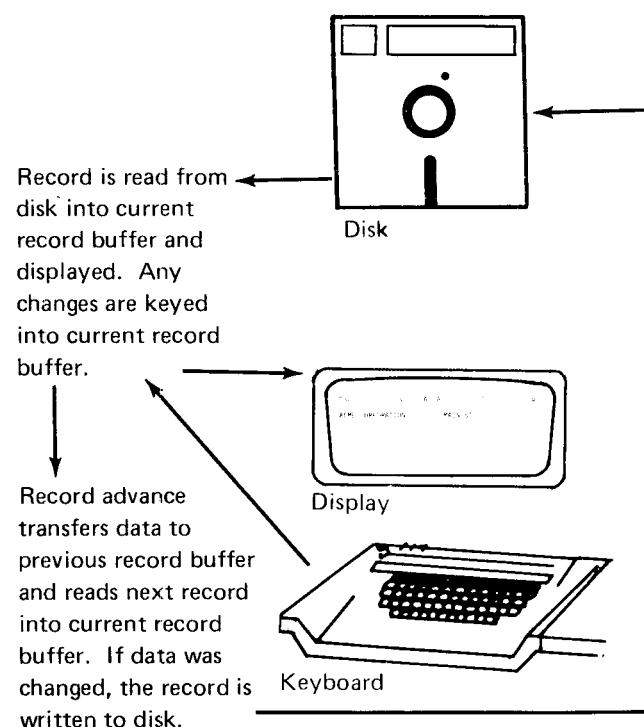

Figure 10. Data Flow for Update Mode
Data flow is summarized in Figure 10. Update mode can be selected from the read index, search, or verify mode. If update is selected from the index track, the disk is positioned at BOE; if update is selected from the verify mode, the record at the current disk address is reread. Selecting the update mode from the enter mode results in a mode selection (M) error. However, the mode automatically changes to the update mode when record backspacing occurs during the enter mode. The search mode also automatically changes to update mode at the end of a search operation. An empty data set (Y) error occurs if update mode is selected when the end of data address equals the beginning of extent address; in other words, when the data set is empty.